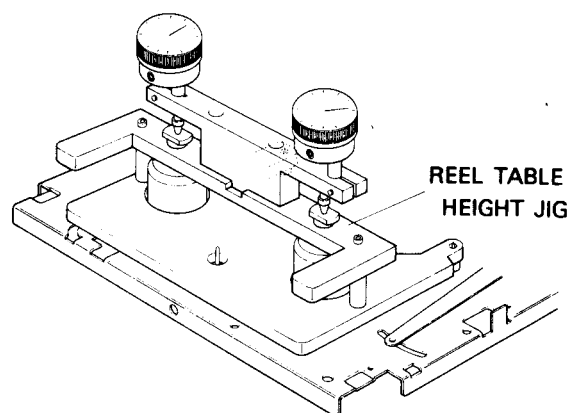

Fig. 18 Reel Disk Height
1. Set the jig for reel disk height to the reel disk L, R as shown in Fig. 18.